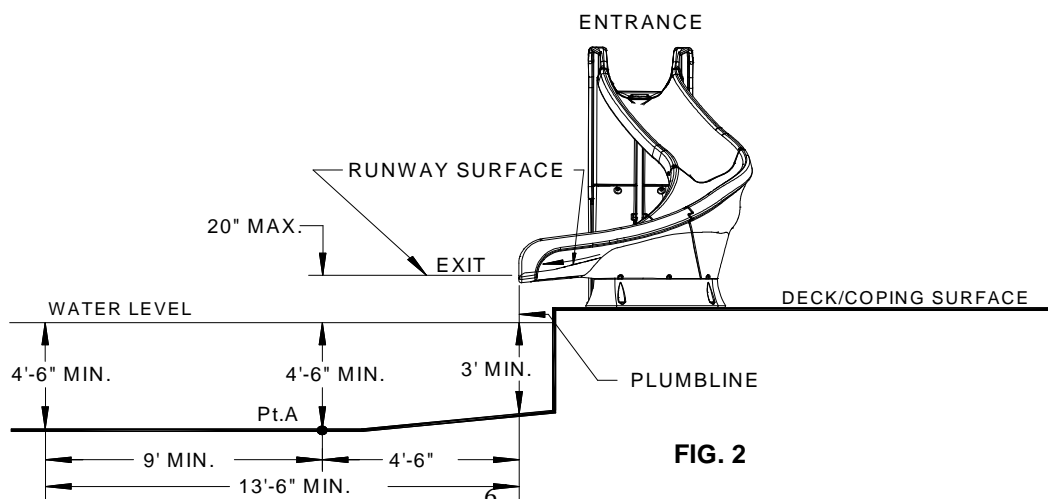

FIG. 2
- A. The slide exit runway surface shall not exceed twenty inches (20") above the water surface as shown in **FIG. 2**. (Local guidelines may indicate a lower maximum height, please verify with local codes.)
- C. The minimum depth of water below the exit lip of the slide shall be three feet (3') and increase to three feet six inches (3'-6") at Pt. A, which is a distance of four feet six inches (4'-6") from the exit lip of the slide as shown in **FIG. 2**.
- D. A minimum depth of three feet six inches (3'-6") shall be maintained at a distance of nine feet (9') along the extended centerline of the slide from Pt. A. as shown in **FIG. 2**.